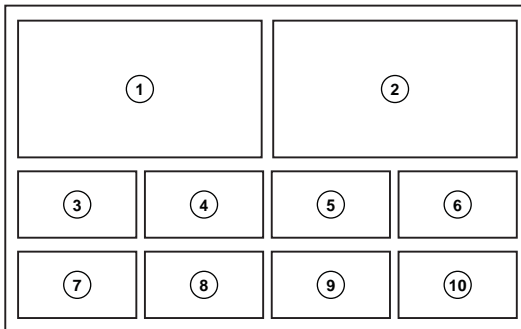

Figure 2.5 MultiViewer Layout
5. Use the **Box** knob to select a box on the MultiViewer display. Refer to Figure 2.5 for the locations of the boxes.